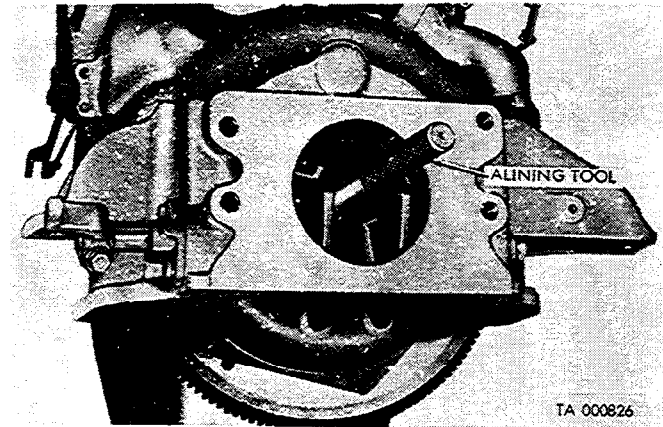

Figure 2-160. Alining clutch parts.
(2) Insert the clutch alining tool through the pressure plate, disk, and into the pilot bearing to aline the parts (fig. 2-160). Tighten the six bolts evenly to 15 to 20 foot-pounds torque, using a torque-indicating wrench. Remove alining tool.